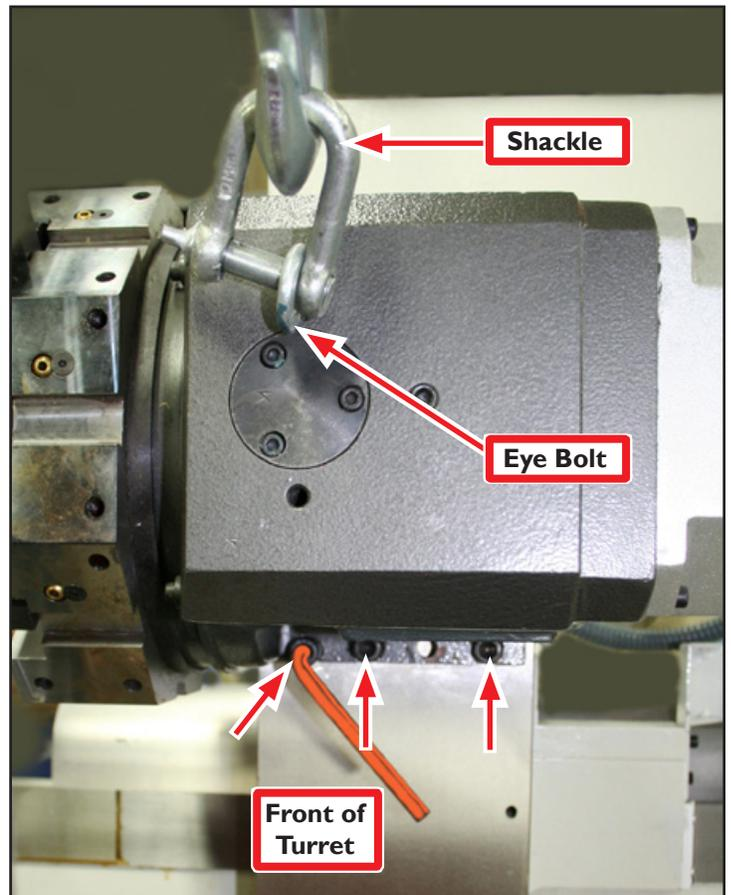

Figure 2
2. Screw the Eye Bolt tightly into the turret and attach Shackle (if needed) as shown in **Figure 2**; use lift system to raise turret above lathe.
3. Screw three M10 x 40 mm Socket Head Cap Screws (each with one flat washer) two-thirds of the way into the lathe's slant bed as shown in **Figure 2**. Use lift system to lower turret onto three screws and snug down with hex wrench.
5. When both the front and back of the turret are secured, disconnect the lift system from the turret's Eye Bolt (refer to **Figure 2**); remove Eyebolt.